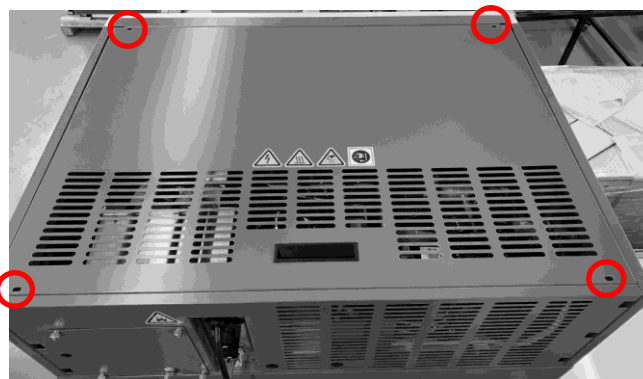

Figure 5-1 **Top Cover Screws**
3. Remove the screws from the perimeter of the top compartment cover (Figure 5-1).